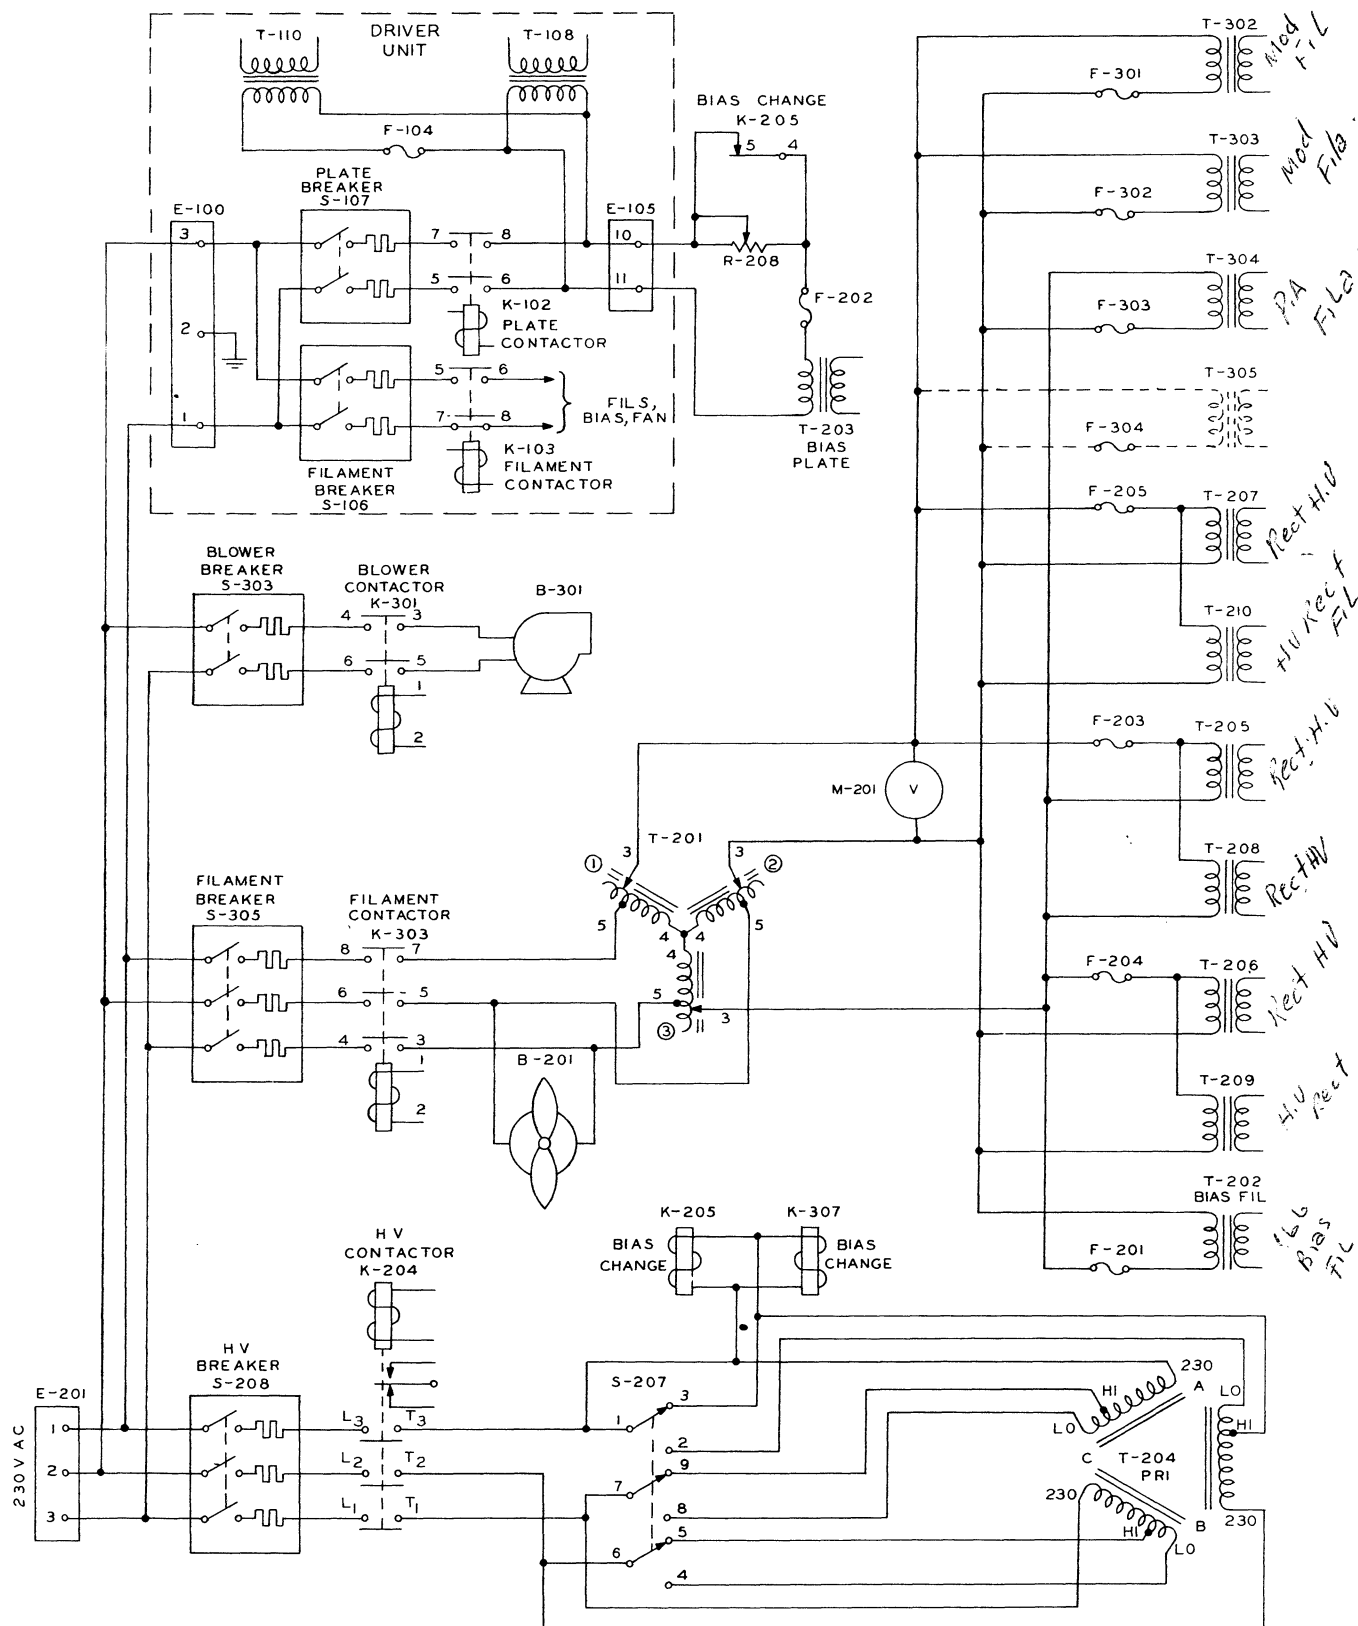

Figure 4-1. Primary Power Circuits
The bias supply consists of a rectifier filament transformer, T-202, which is excited simultaneously with application of transmitter filament power, a full-wave plate transformer, T-203, which is excited upon application of plate power to the driver cabinet, a pair of 866A rectifiers and a suitable choke input filter. A variable resistor, R-208, in the primary lead of T-203 is shorted out by contacts of bias change relay K-205, when the transmitter is operating high power. K-307 inserts additional bleeder resistor R-339 to reduce modulator bias on low power. R-335 and R-336 are individual bias controls for modulator tubes in both high and low power positions. (See figure 4-1.) The value of bias for the r-f power amplifier tubes is predetermined by voltage divider R-338 and R-339. The maximum output voltage of this supply is minus 1200 volts.
a. FILAMENT. (See figure 4-1.) T-201, FILAMENT ADJUST is a 3-phase, 230 V, adjustable autotransformer used to adjust the primary voltage to all the filament transformers in the power and final bay.
b. PLATE. (See figure 4-1.) The 3-phase 230-volt current to excite plate transformer T-204 flows first through HV BREAKER switch S-208 then through high voltage contactor K-204 and through HV-LV switch S-207. S-207 is connected to select primary taps for power-change. Paragraph 4.4.3. explains the circuit to get high voltage contactor K-204 energized.
If the transmitter fails to start, circuits should be checked in the order in which they are made operative. The Primary Control Circuit Diagram, figure 4-1, should be of assistance in locating trouble in the primary circuits. Table 3-1, Typical Meter Readings, and table 5-1, Typical Voltages and Currents, are supplied as a reference of typical voltages and currents in the average 21E/M transmitter. A list of typical readings of all panel meters of the individual transmitter should be made as an aid to rapid trouble shooting.